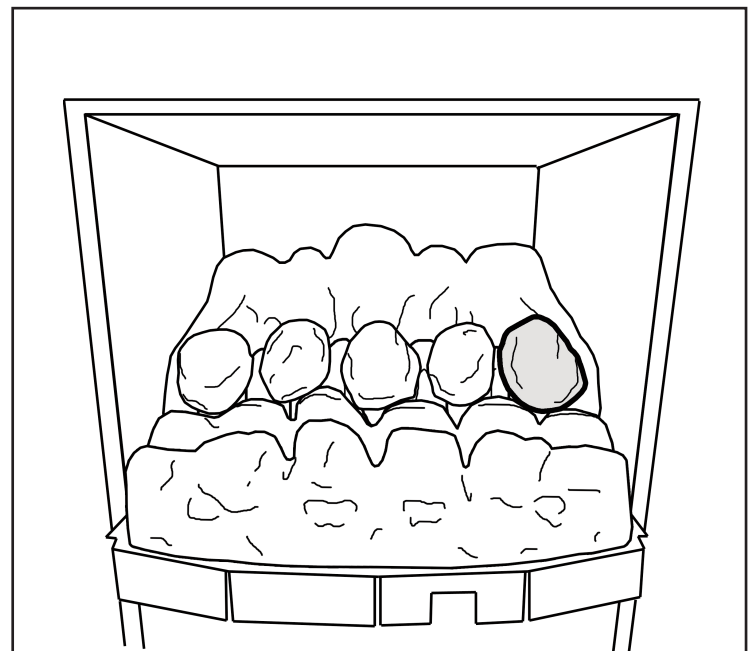

Figure 7. Second row "Coal E"
8. Hold coal 'E' upright with the arrow pointing to the top. Locate coal 'E' as shown in figure 7.